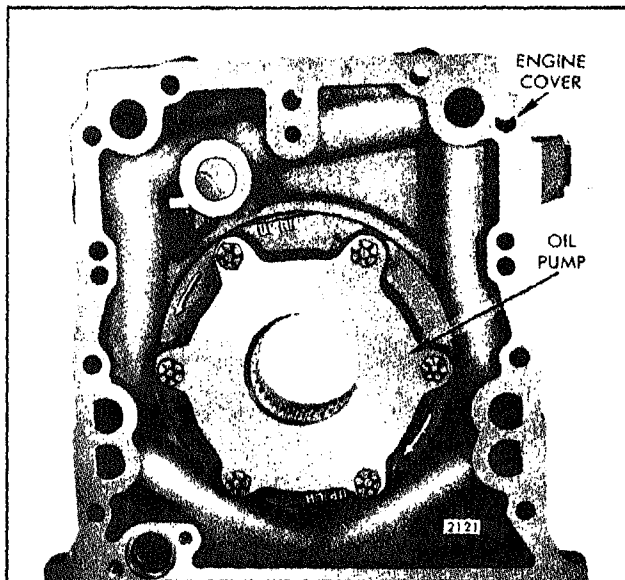

Fig. 1 - Typical Right-Hand Rotation Lubricating Oil Pump Mounting
On current engines, the oil cooler by-pass valve is located on the right-hand side of the engine front cover and the oil pressure regulator valve is located on the left-hand side as viewed from the rear of the engine (Figs. 1 and 2). On former engines, both valves were located on the right-hand side of the cover (Figs. 1 and 2).
Oil from the oil cooler on the In-line engine is directed to the lower engine front cover and then to a longitudinal main oil gallery in the cylinder block. As shown in Fig. 1, this gallery distributes the oil, under pressure, to the main bearings and to a horizontal transverse passage at one end of the block and to vertical passages at each corner of the block which provide lubrication for the balance shaft and camshaft bearings. The camshaft bearings incorporate small slots through which lubricating oil is directed to the cam follower rollers.
Drilled oil passages on the camshaft side of the cylinder head (Fig. 1) are supplied with oil from the bores located at each end of the cylinder block. Oil from these drilled passages enters the drilled rocker shaft brackets at the lower ends of the drilled bolts and lubricates the rocker arm bearings and push rod clevis bearings.
The lubricating oil pump, assembled to the inside of the lower engine front cover as illustrated in Fig. 1, is of the rotor type in which the inner rotor is driven by a gear pressed on the front end of the crankshaft. The outer rotor is driven by the inner rotor. The bore in the pump body, in which the outer rotor revolves, is eccentric to the crankshaft and inner rotor. Since the outer rotor has nine cavities and the inner rotor has eight lobes, the outer rotor revolves at eight-ninths crankshaft speed. Only one lobe of the inner rotor is in full engagement with the cavity of the outer rotor at any given time, so the former can revolve inside the latter without interference.
6. Remove the six bolts and lock washers (if used) which attach the pump assembly to the engine front cover (Fig. 1) and withdraw the pump assembly from the cover.